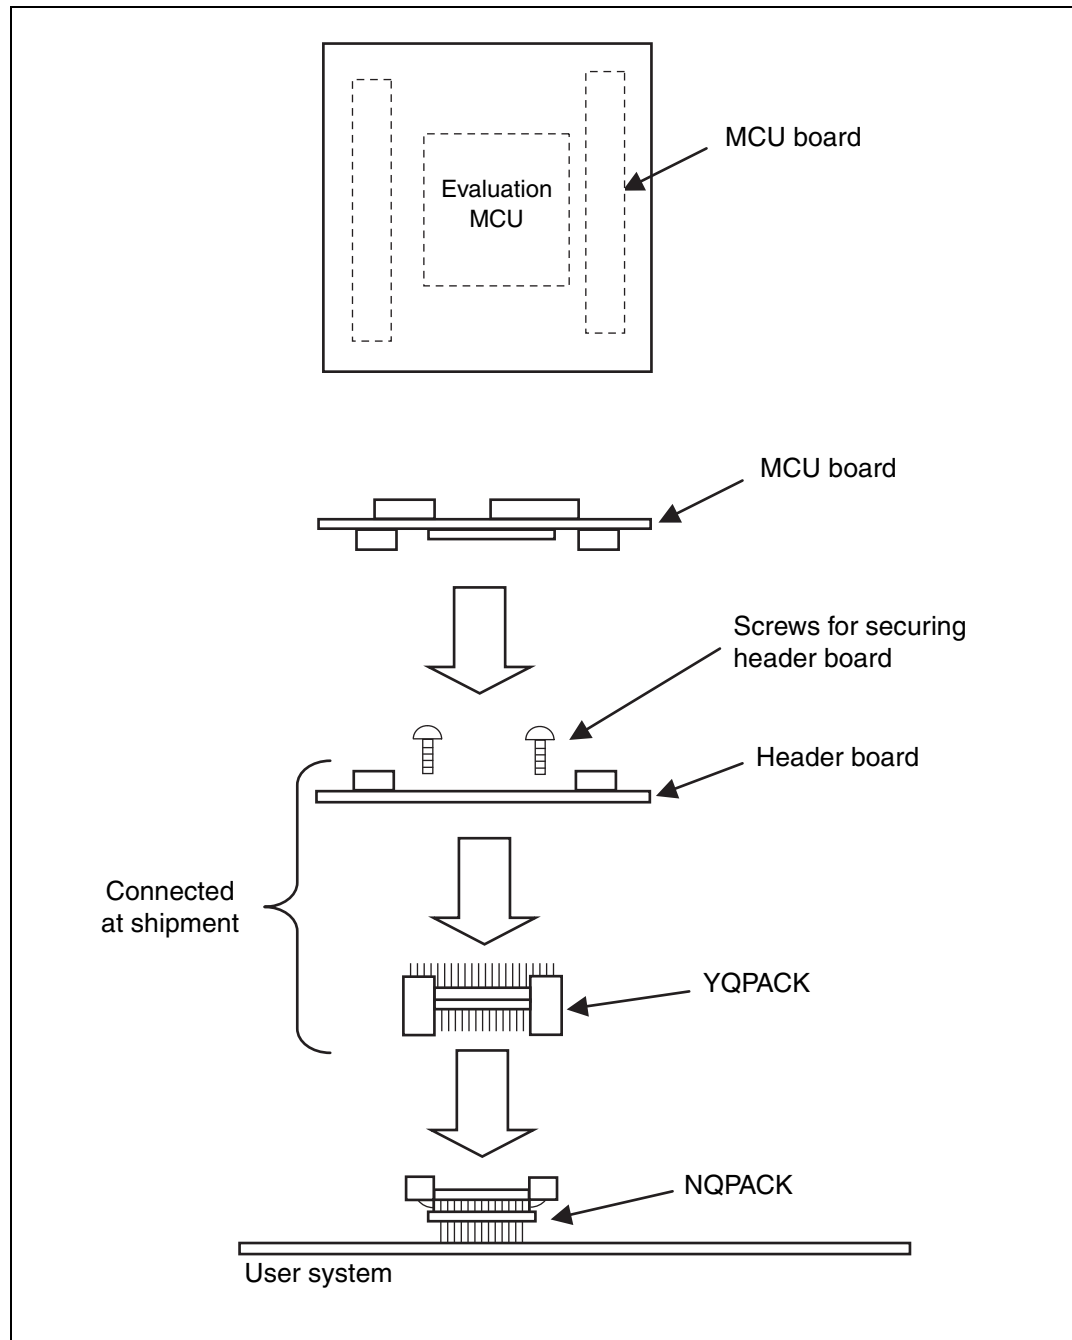

Figure 5 Connecting MCU Board/Header Board to User System
3. Connect the MCU board to the header board while being careful not to excessively force the NQPACK. The MCU board can be connected to the header board only in the correct orientation as they have an incorrect insertion prevention header socket to prevent a reverse connection. Figure 5 illustrates how the MCU board, header board, NQPACK, and user system are connected together.